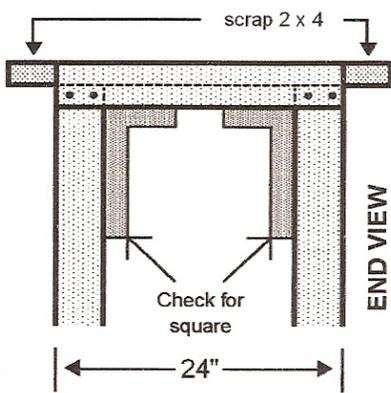

Figure 5
STEP 5: Evenly space 6 more of the 24" 2x4's between the attached 2x4's. The gap between the 2x4's should be about 2 1/8", but due to variation in lumber dimensions this may vary. When all the 2x4's are evenly spaced attach to 4x4's with 3" deck screws. (Figure 5).